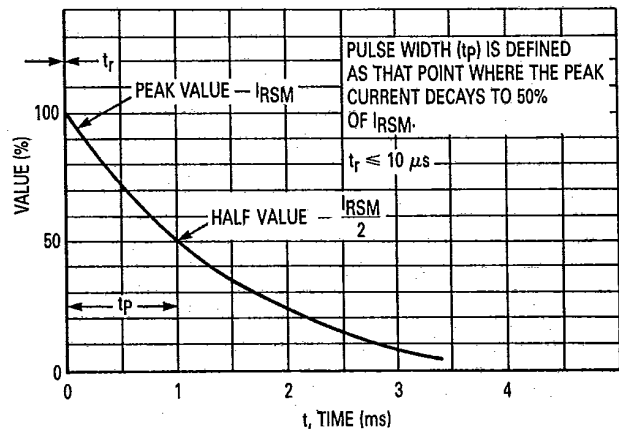

Figure 2. Pulse Waveform
- NOTES: 1. Derated above $T_A = 25^\circ\text{C}$ per Figure 2.
† Surge Current Waveform per Figure 2.